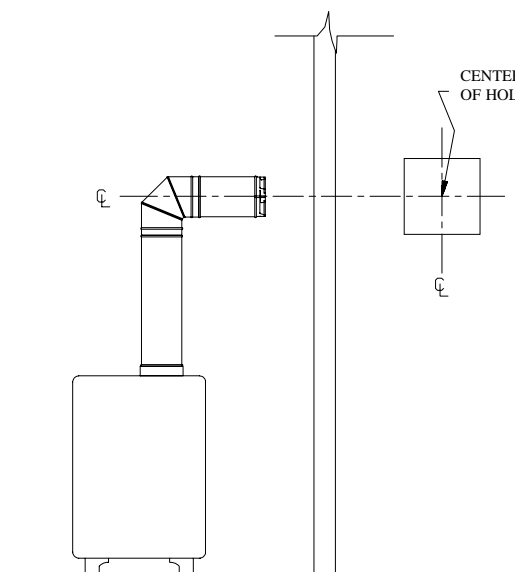

Fig 6
Step 3. With the adaptor and pipe attached to the stove, slide the stove into it's correct location, and mark the wall for a square hole of the appropriate size. Use an 11" x 11" square hole when using 5" x 8" pipe. The center of the square hole should line up with the centerline of the horizontal pipe, as shown in Figure 6, unless otherwise required by the appliance manufacturer. Cut and frame the square opening in the exterior wall where the vent will be terminated. If the wall being penetrated is constructed of